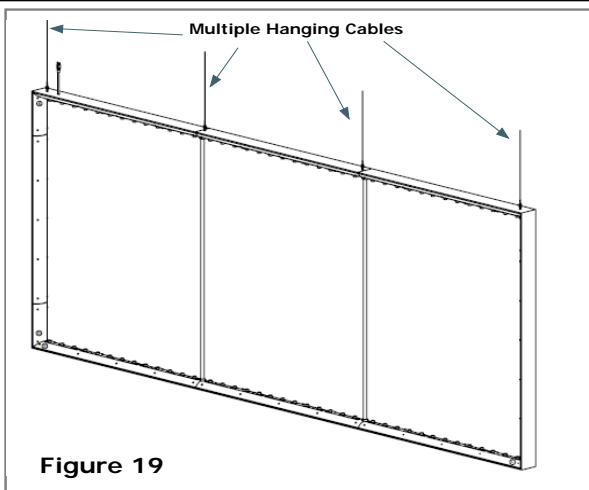

Figure 19
3. Lift the display frame into the vertical position. Multiple cables may be required to support each section of a large frame. **See Figure 19.**